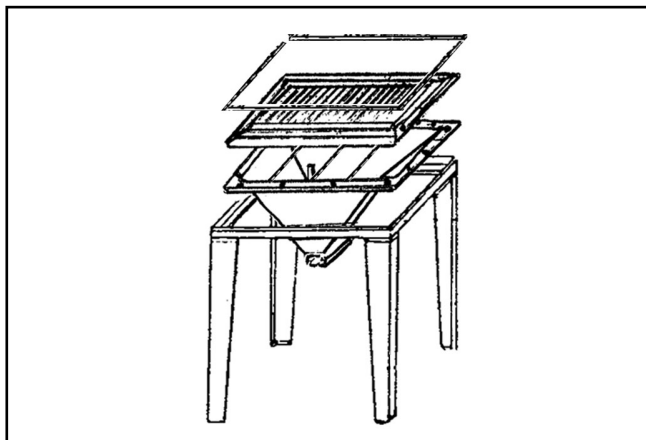

Figure 2. Hopper and screen assembly.
2. Assemble the hopper assembly, the screen, and the adhesive foam gasket in the order shown (**Figure 2**).